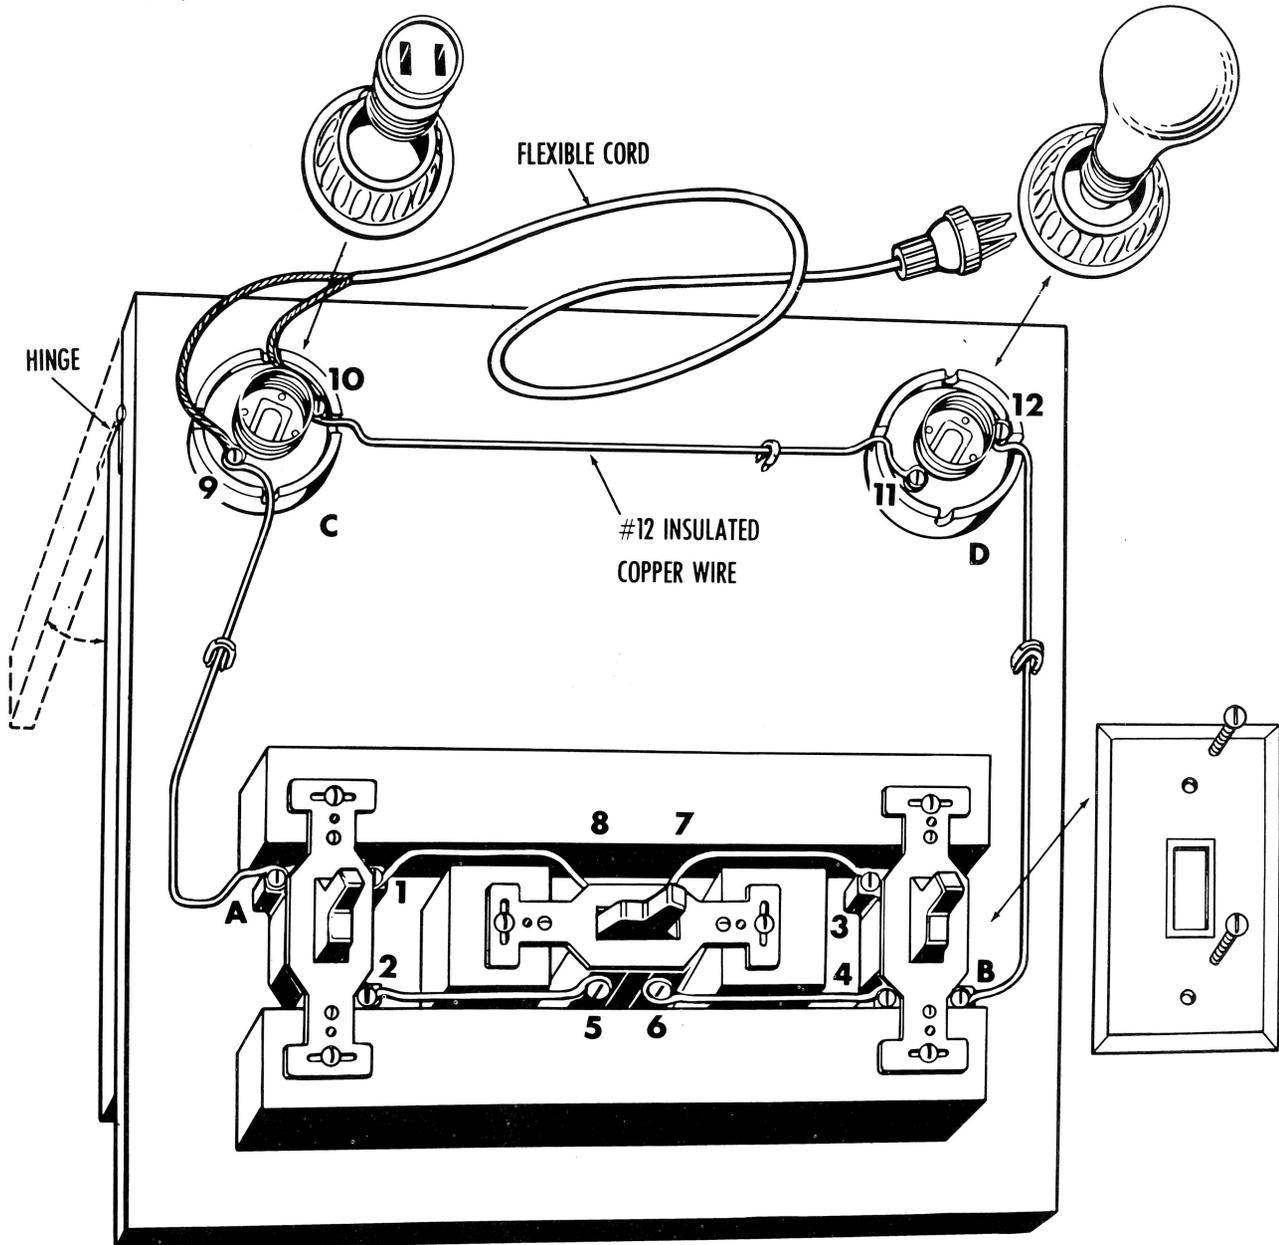

Figure 8 **DEMONSTRATION CONTROL BOARD**
Prepare your board as shown in Figure 8. The cleats should be about 3" shorter than the board is wide, and just far enough apart for mounting your switches. Attach wooden "feet" or legs to underside of board at corners as shown. Use wood screws or nails. The board is now ready for mounting switches, light socket and wiring.
Mount switches as shown in Figure 8, with 4-way switch in the middle. Use mounting hardware that comes with switches and socket. (When wiring has been completed and checked, put the plates over the switches and screw covers on sockets to cover exposed terminals.) Mount light sockets as indicated.
3. Wire the board as shown in Figure 8. With a pencil, check off the corresponding wire in Figure 8 as you attach each wire to the circuit. In this way, you'll be sure you haven't omitted a wire. Check off (✓) each wiring step below as it is completed.
- () Use the remaining wire to connect other terminal (12) of the light socket D with terminal B of the second 3-way switch.